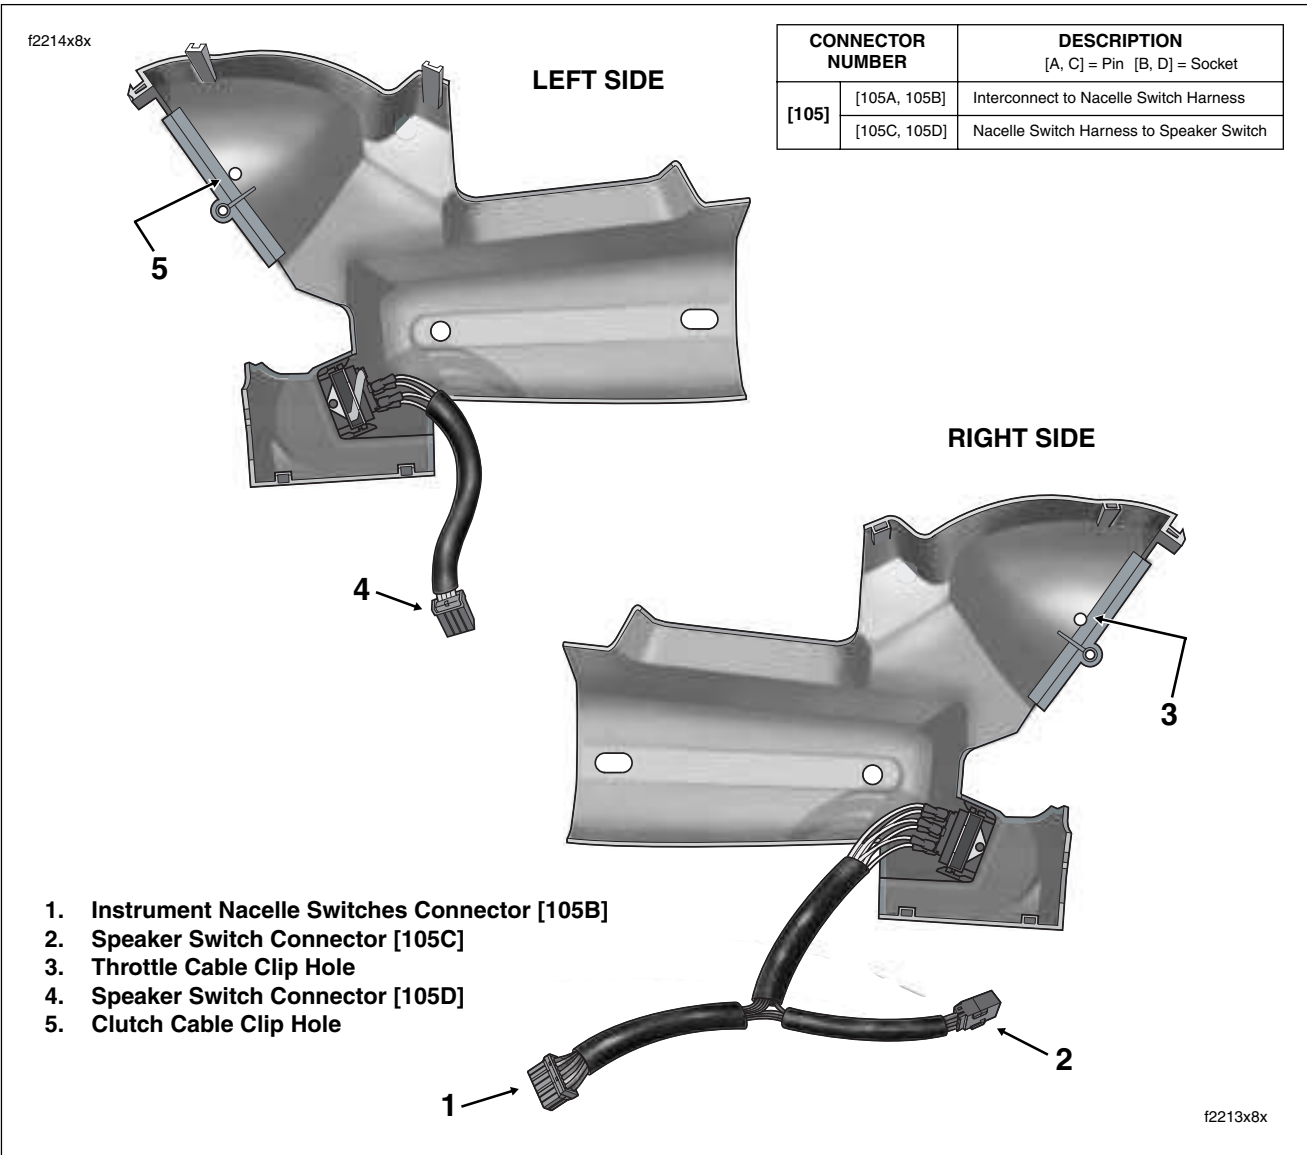

Figure 2-178. Instrument Nacelle Halves
6. Unthread rubber boot from odometer reset switch, and while carefully removing left side instrument nacelle from motorcycle, pull odometer reset switch from hole. See Figure 2-178.